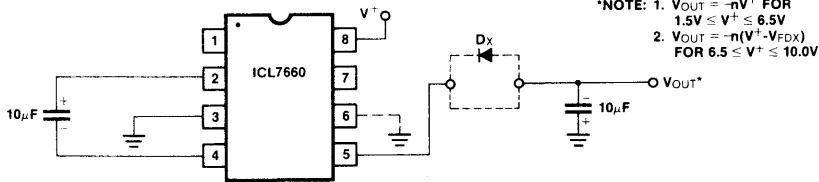
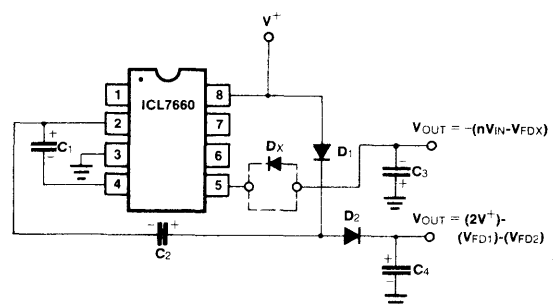

Figure 4: Simple Negative Converter
Figure 10: Combined Negative Converter and Positive Multiplier
The majority of applications will undoubtedly utilize the ICL7660 for generation of negative supply voltages. Figure 4 shows typical connections to provide a negative supply where a positive supply is available. A similar scheme may be employed for supply voltages anywhere in the operating range of +1.5V to +10.0 volts, keeping in mind that pin 6 (LV) is tied to the supply negative (GND) only for supply voltages below 3.5 volts, and that diode D_X must be included for proper operation at higher voltages and/or elevated temperatures.
The output characteristics of the circuit in Figure 4 are those of a nearly ideal voltage source in series with 70 ohms. Thus for a load current of -10mA and a supply voltage of +5 volts, the output voltage will be -4.3 volts. The dynamic output impedance due to the capacitor impedances is approximately $1/\omega C$ where
Figure 10 combines the functions shown in Figures 4 and 9 to provide negative voltage conversion and positive voltage multiplication simultaneously. This approach would be, for example, suitable for generating +9 volts and -5 volts from an existing +5 volt supply. In this instance capacitors C₁ and C₃ perform the pump and reservoir functions respectively for the generation of the negative voltage, while capacitors C₂ and C₄ are pump and reservoir respectively for the multiplied positive voltage. There is a penalty in this configuration which combines both functions, however, in that the source impedances of the generated supplies will be somewhat higher due to the finite impedance of the common charge pump driver at pin 2 of the device.